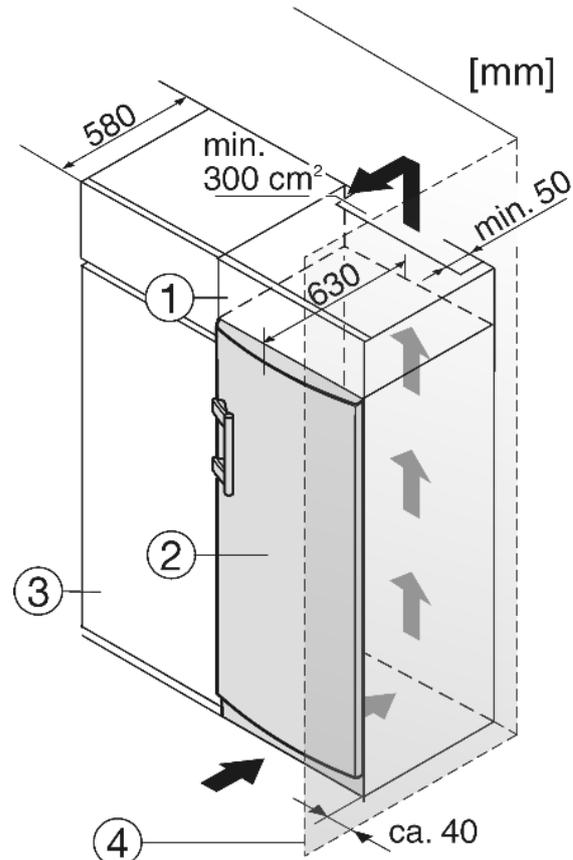

Fig. 8
- (1) Stack cabinet
- (2) Appliance
- (3) Kitchen cabinet
- (4) Wall
When inserting the appliance into a row of kitchen units (max. depth 580 mm), the appliance can be installed directly next to the kitchen unit *Fig. 8 (3)*. The appliance door projects relative to the front of the kitchen unit by 34 mm at the side and by 50 mm in the middle of the appliance. It can be opened and closed perfectly as a result.
If the appliance is installed with the hinges next to a wall *Fig. 8 (4)*, the distance between appliance and wall has to be at least 40 mm. This corresponds to the projection of the handle when the door is open.